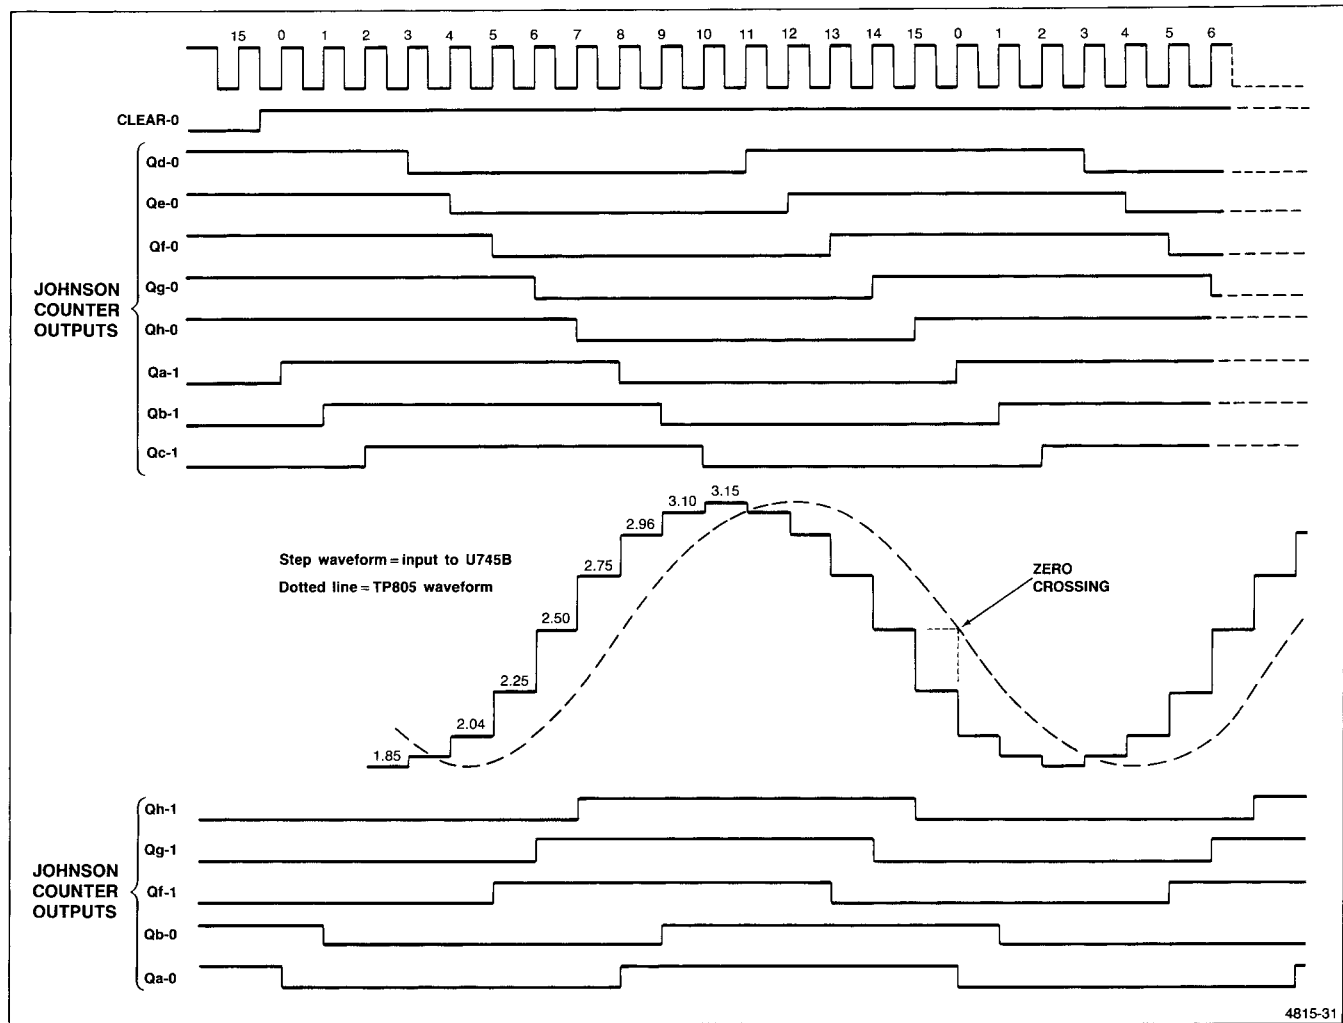

Figure 3-22. Johnson Counter Outputs.
U541 and U641 (quad D flip/flops) form a Johnson counter. Figure 3-22 shows the timing of the output signals from the counter. 16CK clocks the signal through the counter that
- To produce a digitally synthesized sine-wave to drive the ink-jet heads during imaging. Figure 3-22 shows how the combined Johnson counter outputs feed through U741 buffers and the “weighted” output resistors to produce the sine-wave at the input of U745. The output pins of U741 are sequenced to provide a “stair-stepped sine-wave” at the input of the two-pole active filter consisting of U745B, R744, C745 and C744. This produces a filtered (without the harmonics created by the D/A conversion) sine wave of 1.28v p/p at TP805.